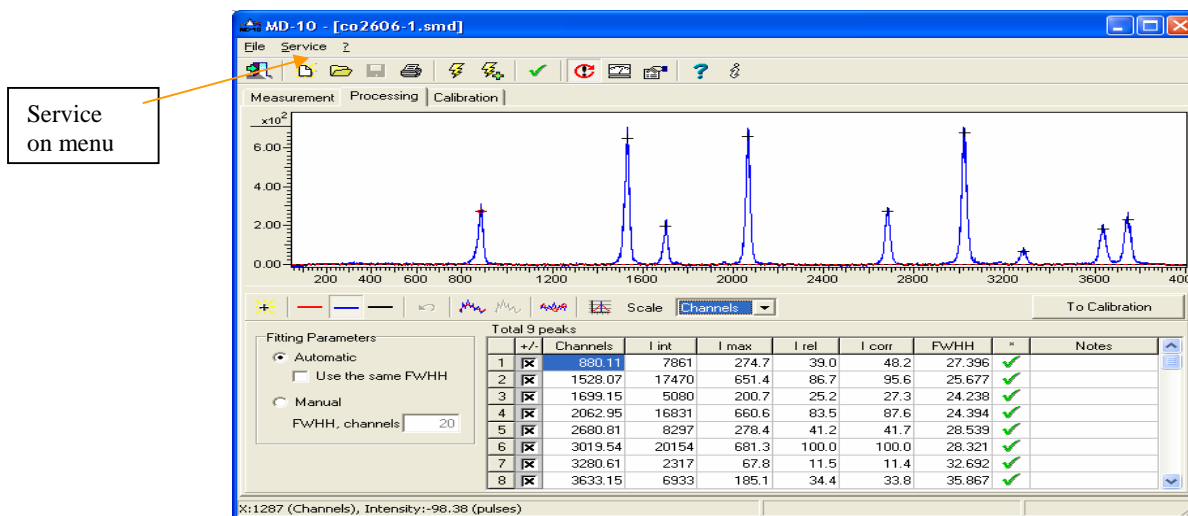

Fig.7 MD-10 Diffractometer Main Window – Processing page.
- Process a measured spectrum by pressing the button “Fit Peak Profiles” on the control panel of a “Measurement” page. Then program will be automatically switched to the “Processing” window as in Fig. 7